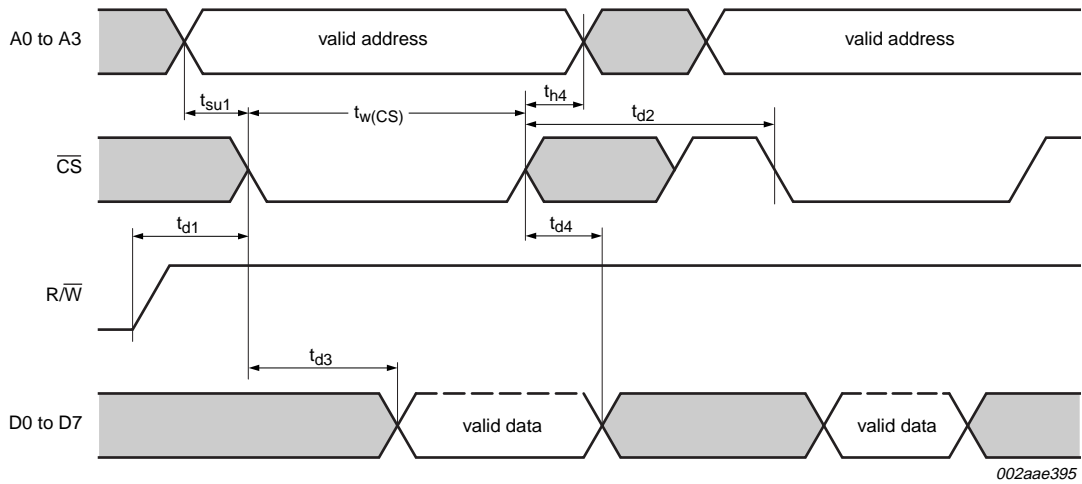

Fig 5. General read timing
- (2)  $\overline{CS}$  timing during a read cycle. See Figure 5.
Modifications: <ul style="list-style-type: none"> <li>The format of this data sheet has been redesigned to comply with the new identity guidelines of NXP Semiconductors.</li> <li>Legal texts have been adapted to the new company name where appropriate.</li> <li>Data sheet descriptive title changed from "... Motorola <math>\mu</math>P interface" to "... 68 mode <math>\mu</math>P interface"</li> <li><a href="#">Section 2 "Features"</a>: added (new) 3rd bullet item and <a href="#">Footnote 1</a></li> <li><a href="#">Table 2 "Pin description"</a>:               <ul style="list-style-type: none"> <li>Description for <math>\overline{\text{RXRDYA}}</math>, <math>\overline{\text{RXRDYB}}</math>: deleted "This function is associated with PLCC44 and LQFP48 packages only."</li> <li>Description for <math>\overline{\text{TXRDYA}}</math>, <math>\overline{\text{TXRDYB}}</math>: deleted "This function is associated with PLCC44 and LQFP48 packages only."</li> </ul> </li> <li><a href="#">Table 22 "Limiting values"</a>:               <ul style="list-style-type: none"> <li>parameter description for symbol <math>V_n</math> changed from "voltage at any pin" to "voltage on any other pin"; added separate conditions for "at D7 to D0" and "at any input only pin"</li> <li>parameter description for symbol <math>T_{\text{amb}}</math> changed from "operating temperature" to "ambient temperature" (moved "operating" to Conditions column)</li> <li>symbol for "total power dissipation per package" changed from "<math>P_{\text{tot(pack)}}</math>" to "<math>P_{\text{tot/pack}}</math>"</li> </ul> </li> <li><a href="#">Table 23 "Static characteristics"</a>:               <ul style="list-style-type: none"> <li>descriptive line below table title changed from "<math>V_{\text{CC}} = 2.5 \text{ V}, 3.3 \text{ V}</math> or <math>5.0 \text{ V} \pm 10 \%</math>" to "tolerance of <math>V_{\text{CC}} \pm 10 \%</math>"</li> <li>symbol/parameter changed from "<math>V_{\text{IL(CK)}}</math>, LOW-level clock input voltage" to "<math>V_{\text{IL(clk)}}</math>, clock LOW-level input voltage"</li> <li>symbol/parameter changed from "<math>V_{\text{IH(CK)}}</math>, HIGH-level clock input voltage" to "<math>V_{\text{IH(clk)}}</math>, clock HIGH-level input voltage"</li> <li>symbol/parameter changed from "<math>I_{\text{CL}}</math>, clock leakage" to "<math>I_{\text{L(clk)}}</math>, clock leakage current"</li> </ul> </li> <li><a href="#">Table 24 "Dynamic characteristics"</a>:               <ul style="list-style-type: none"> <li>descriptive line below table title changed from "<math>V_{\text{CC}} = 2.5 \text{ V}, 3.3 \text{ V}</math> or <math>5.0 \text{ V} \pm 10 \%</math>" to "tolerance of <math>V_{\text{CC}} \pm 10 \%</math>"</li> <li>symbol "<math>t_{1w}</math>, <math>t_{2w}</math>" (clock cycle period) separated into 2 symbols "<math>t_{\text{WH}}</math>, pulse width HIGH" and "<math>t_{\text{WL}}</math>, pulse width LOW"</li> <li>symbol "<math>t_{w1}</math>, <math>\overline{\text{CS}}</math> strobe width" changed to "<math>t_{\text{w(CS)}}</math>, <math>\overline{\text{CS}}</math> pulse width"</li> <li><a href="#">Table note [3]</a>: changed denominator from "<math>t_{3w}</math>" to "<math>t_{\text{w(clk)}}</math>"</li> <li>added <a href="#">Table note [4]</a> and its reference at <math>t_{\text{(RESET)}}</math></li> </ul> </li> <li><a href="#">Figure 5 "General read timing"</a>: changed symbol from "<math>t_{w1}</math>" to "<math>t_{\text{w(CS)}}</math>"</li> <li><a href="#">Figure 6 "General write timing"</a>: changed symbol from "<math>t_{w1}</math>" to "<math>t_{\text{w(CS)}}</math>"</li> <li><a href="#">Figure 8 "External clock timing"</a>:               <ul style="list-style-type: none"> <li>symbol changed from "<math>t_{1w}</math>" to "<math>t_{\text{WH}}</math>"</li> <li>symbol changed from "<math>t_{2w}</math>" to "<math>t_{\text{WL}}</math>"</li> <li>symbol changed from "<math>t_{3w}</math>" to "<math>t_{\text{w(clk)}}</math>"</li> </ul> </li> <li>updated soldering information</li> </ul>